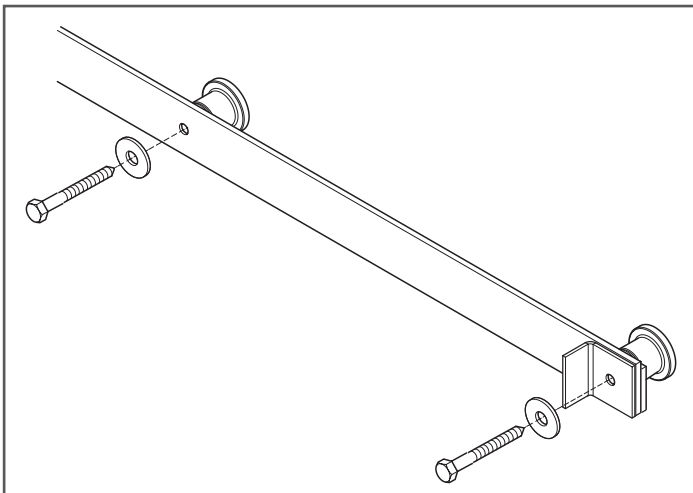

Figure 5
5. Reinstall the lag screws, washers and hard stop (Figure 5).